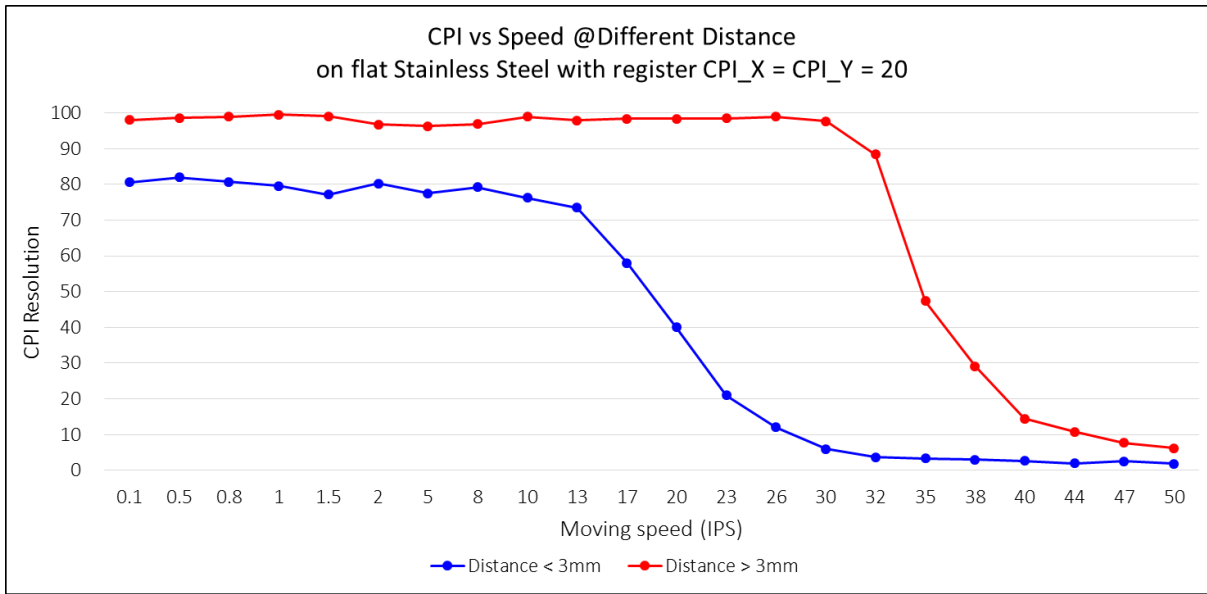

Figure 8. CPI vs Speed @Different Distance
2. When the distance to tracking surface is < 3mm, the reported CPI resolution could be lower than the CPI value at ≥ 3mm. Please refer to Figure 8 below.